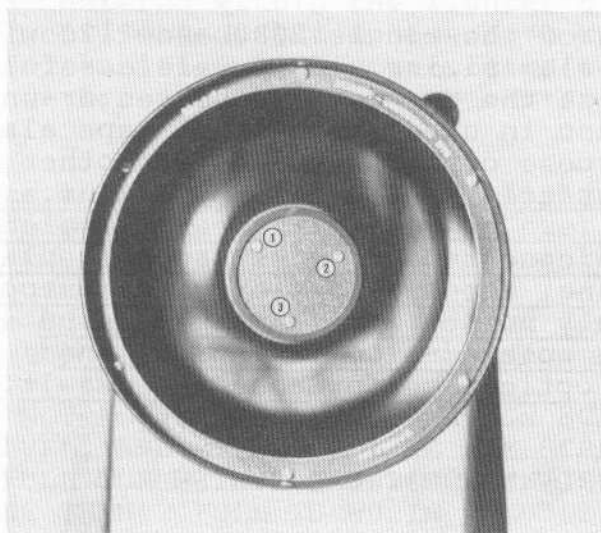

Fig. 24: Collimation of the
1. Note that the only optical alignment adjustment of the Models 2080 and 2120 that is ever necessary, or possible, is the tilt-angle adjustment of the secondary mirror. Adjustment of this tilt-angle is achieved by turning the 3 set screws shown in Fig. 24, located at the edge of the outer surface of the secondary mirror housing.